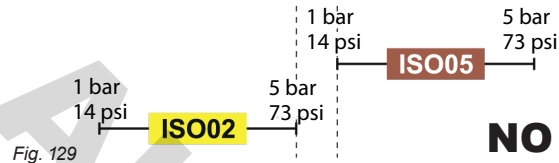

Fig. 129
- **NON-compatible nozzles:** the flowrate at 1 bar - 14 psi of the ISO05 nozzle is HIGHER than the flowrate at 5 bar - 73 psi of the ISO02 nozzle (Fig. 129).